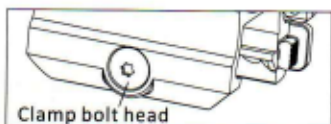

Fig4-2
- There is one Torx socket at the end of clamp adjusting bolt on the side of the mount. (See Fig 4-2) Before installation, loosen the